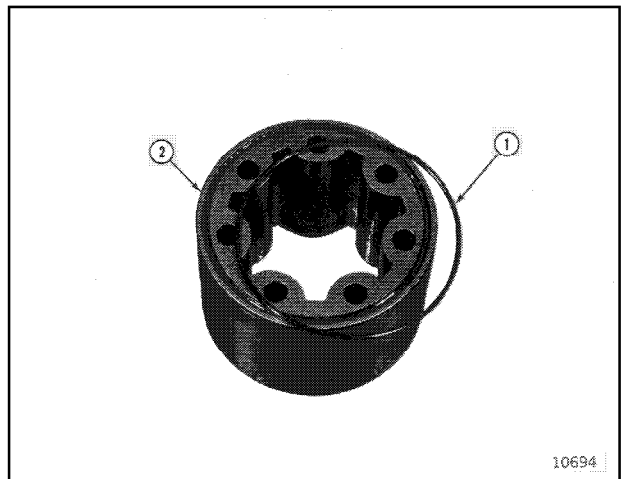

Figure 32
16. Replace O-ring (1, Figure 32) on gerotor (2).